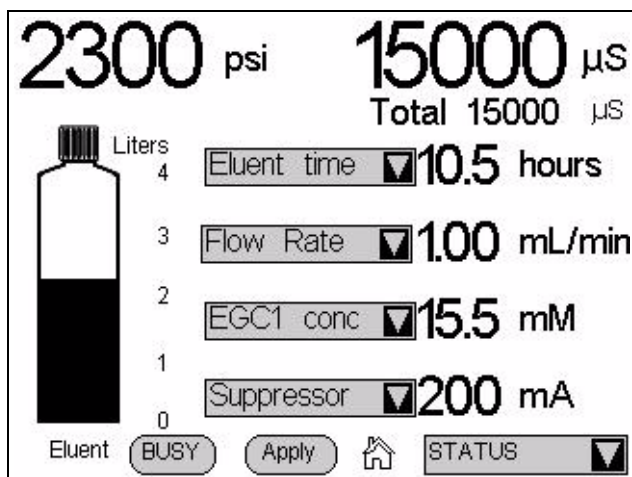

Figure C-11. Status Page Setup
1. Touch the **Setup** button. A drop-down list replaces the label for each field, and the **Setup** button changes to **Apply** (see Figure C-11).